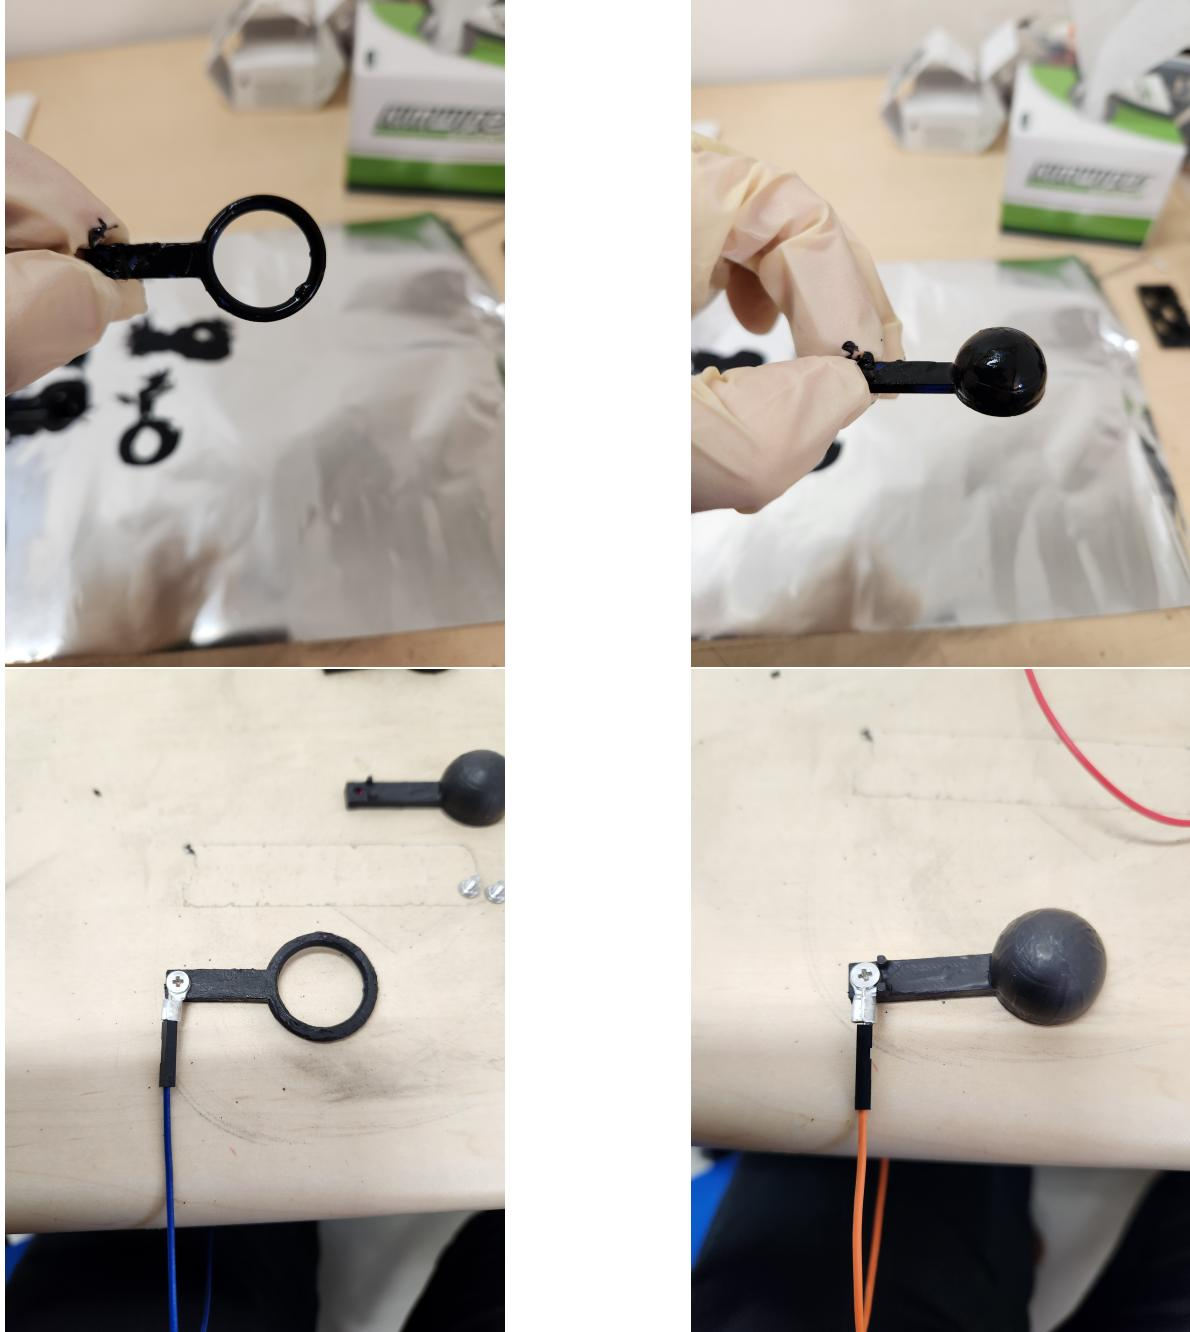

Figure 4: (left) ring electrode, (right) endcap
1. Apply conductive paint to `ring_electrode.stl` and `endcap.stl`, and let it dry (Fig. 4).
3. Connect one end to the electrode using a low-profile screw (Fig. 4).